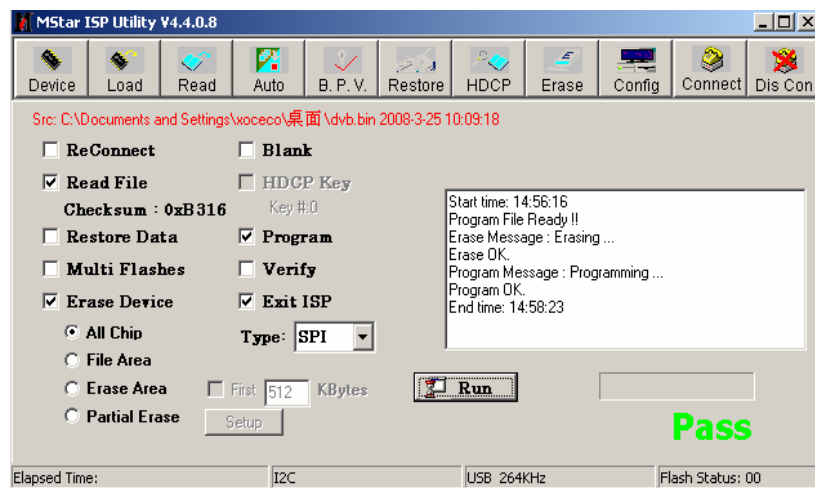

Fig. 6 A prompt “**Pass**” displaying beside button “**Run**” for successful burning process
7) A prompt “**Pass**” will display beside button “**Run**” if burning process is successful, please refer to Fig. 6;